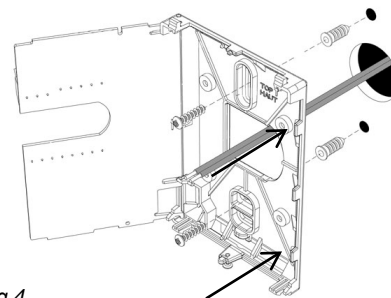

Fig. 4
1. Swing open the Terminal Equipment Controller PCB to the left by pressing the PCB locking tabs. **(Fig. 4)**
7. Insert screws in mounting holes on each side of the base. **(Fig. 4)**